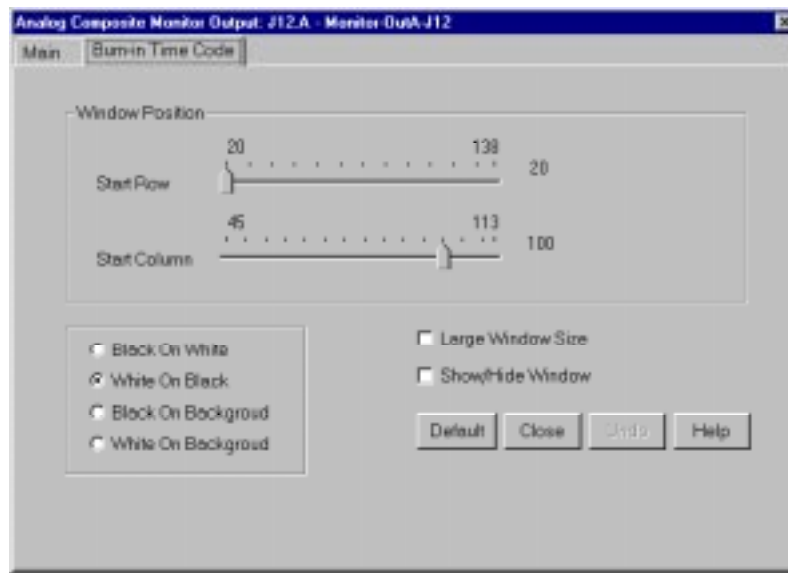

Figure 25. Analog Composite Monitor Output dialog box, Burn-in Timecode tab
1. Click the Burn-in Timecode tab to bring up the controls for displaying burn-in timecode on the monitor (see Figure 25).